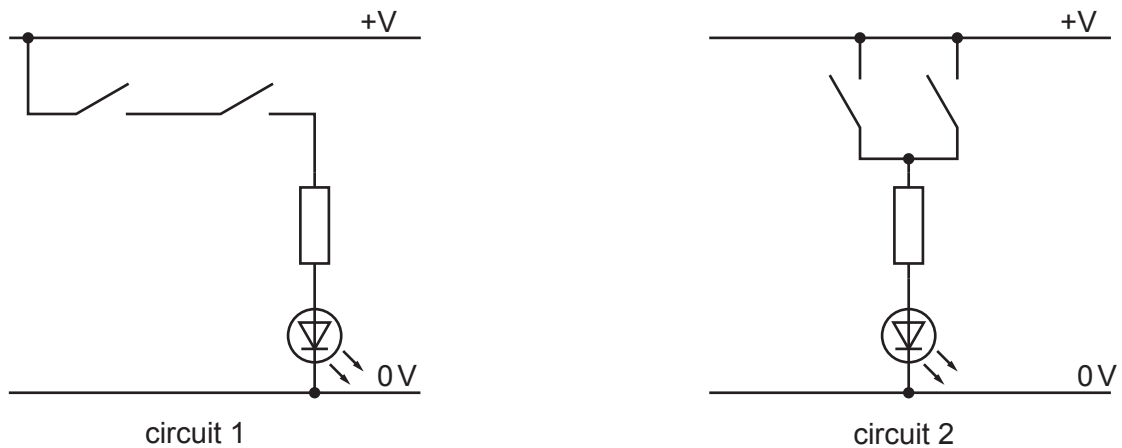

Fig. 12.4
- (c) Fig. 12.4 shows two logic circuits made from switches.